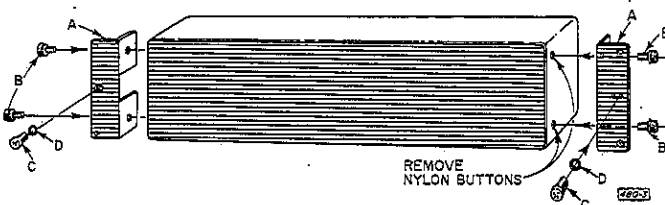

Figure 2. Relay-rack installation of Type 1434-G.
b. Install the 3 1/2-by-7/8-inch adaptor-panel assemblies (A, Figure 2) on each side of the instru-